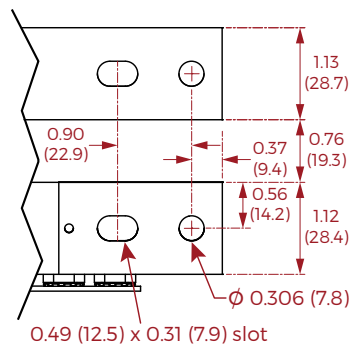

Figure 5. Input Bus Bar Detail
9.2 Input Connections. See Figure 5. The DC power inputs to the distribution panel are made by means of crimp type lugs to two copper bus bars on side A and side B. The upper bus bar is the battery connection (whether + or -) and the lower bus bar is the return (whether + or -).